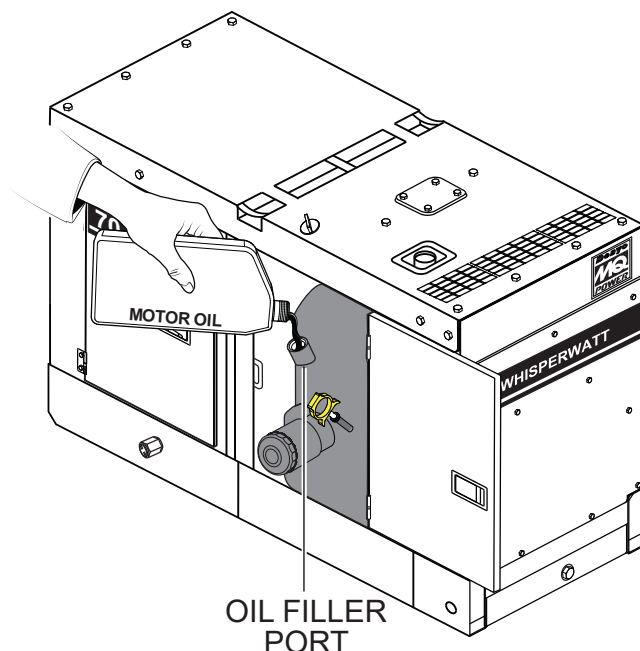

**Figure 31. Engine Oil Level**
3. Reinsert the dipstick, then remove the dipstick from its holder. Check the oil level shown on the dipstick (Figure 31).